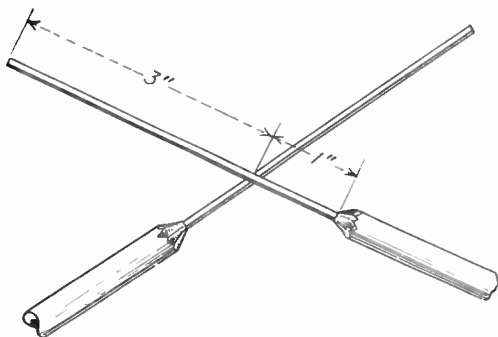

FIG. 115. Wires ready for splicing.
Step 2. Hold the wires together as shown in Fig. 115.